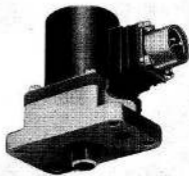

Fig. 1. Oil dilution valve, Type FGH
1. This valve (fig. 1) is an electro-magnetic component and there are no unusual design features. Variations occur in the positioning of the electrical connections (fig. 2) and in the valve settings; there are no structural differences. A valve may be conveniently described in two parts, the coil case and coil assembly, and the valve body. The metering jet, which is usually fitted to the outlet port, is an item supplied separately according to the particular installation.